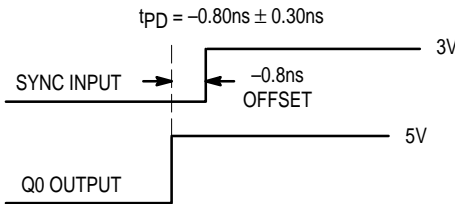

Figure 2. Depiction of the Fixed SYNC to Q0 Offset (t_{PD}) Which Is Present When a 470KΩ Resistor Is Tied to V_{CC} or Ground
2. A 470KΩ resistor tied to either Analog V_{CC} or Analog GND, as shown in Figure 2., is required to ensure no jitter is present on the MC88LV926 outputs. This technique causes a phase offset between the SYNC input and the Q0 output, measured at the pins. The t_{PD} spec describes how this offset varies with process, temperature, and voltage. The specs were arrived at by measuring the phase relationship for the 14 lots described in note 1 while the part was in phase-locked operation. The actual measurements were made with a 10MHz SYNC input
- (1.0ns edge rate from 0.8V to 2.0V). The phase measurements were made at 1.5V. See Figure 2. for a graphical description.